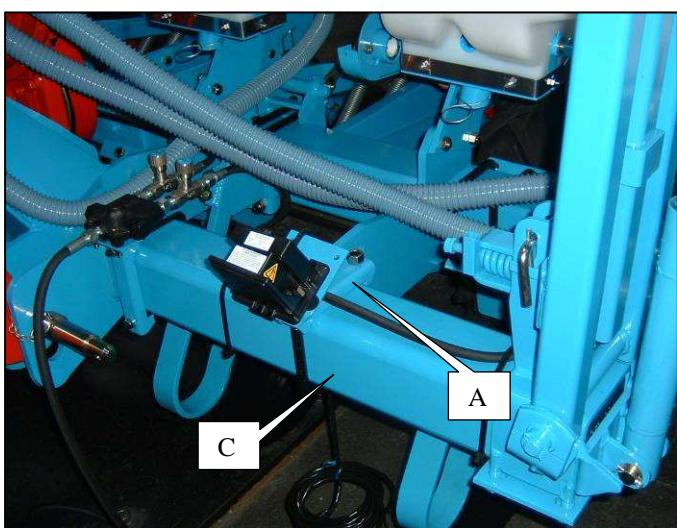
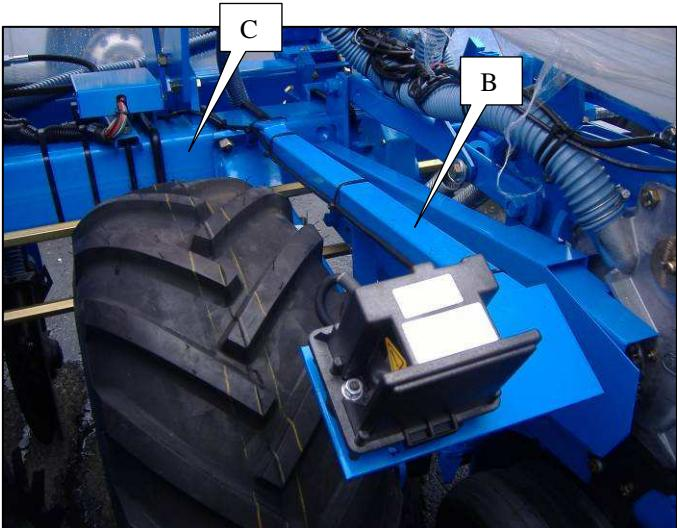

Fig. 1
Fig. 2
Le kit de montage comprend un support de fixation sur semoir A (Fig.1) ou un support de fixation sur bloc roue B (Fig.2)
-Installer le support sur le châssis du semoir C (voir Fig.1 et 2).
The assembly kit includes a mounting A (Fig.1) or B (Fig.2).
The assembly kit includes a securing bracket on the seeder A (Fig.1) or a securing bracket on the wheel unit B (Fig.2)
-Mount the bracket on the seeder frame C (see Fig.1 and 2).